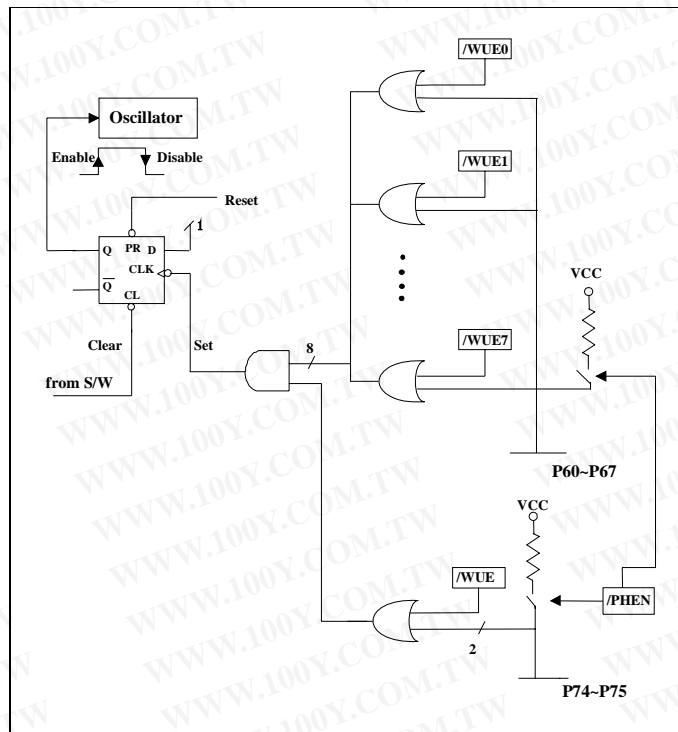

Fig. 5 Sleep Mode and Wake-up Circuits on I/O Ports Block Diagram
**Bit 4 (SLPC):** This bit is set by hardware at the low level trigger of the wake-up signal and is cleared by software. SLPC is used to control the oscillator operation. The oscillator is disabled (oscillator is stopped, and the controller enters into Sleep 2 mode) on the high-to-low transition and is enabled (controller is awakened from Sleep 2 mode) on the low-to-high transition. In order to ensure having a stable oscillator output, once the oscillator is enabled again, there should be a delay for approximately 18ms1 (oscillator start-up timer, OST) before the next instruction of the program is executed. The OST is always activated by a wake-up event from sleep mode regardless whether the Code Option bit ENWDT status is "0" or otherwise. After waking up, the WDT is enabled if the Code Option ENWDT is "1". The block diagram of Sleep 2 mode and wake-up invoked by an input trigger is depicted in Fig. 5. The SLPC bit can be read and written to.
- (A) Any of the wake-up pins is "0" as illustrated in Figure. 5. Upon waking, the controller will continue to execute the succeeding address. In this case, before entering Sleep2 Mode, the wake-up function of the trigger sources (P60~P67 and P74~P75) should be selected (e.g., input pin) and enabled (e.g., pull-high, wake-up control). It should be noted that after waking up, the WDT is enabled if the Code Option bit ENWDT is "0". The WDT operation (to be enabled or disabled) should be appropriately controlled by software after waking up.
- (B) WDT time-out (if enabled) or external reset input on /RESET pin will trigger a controller reset.